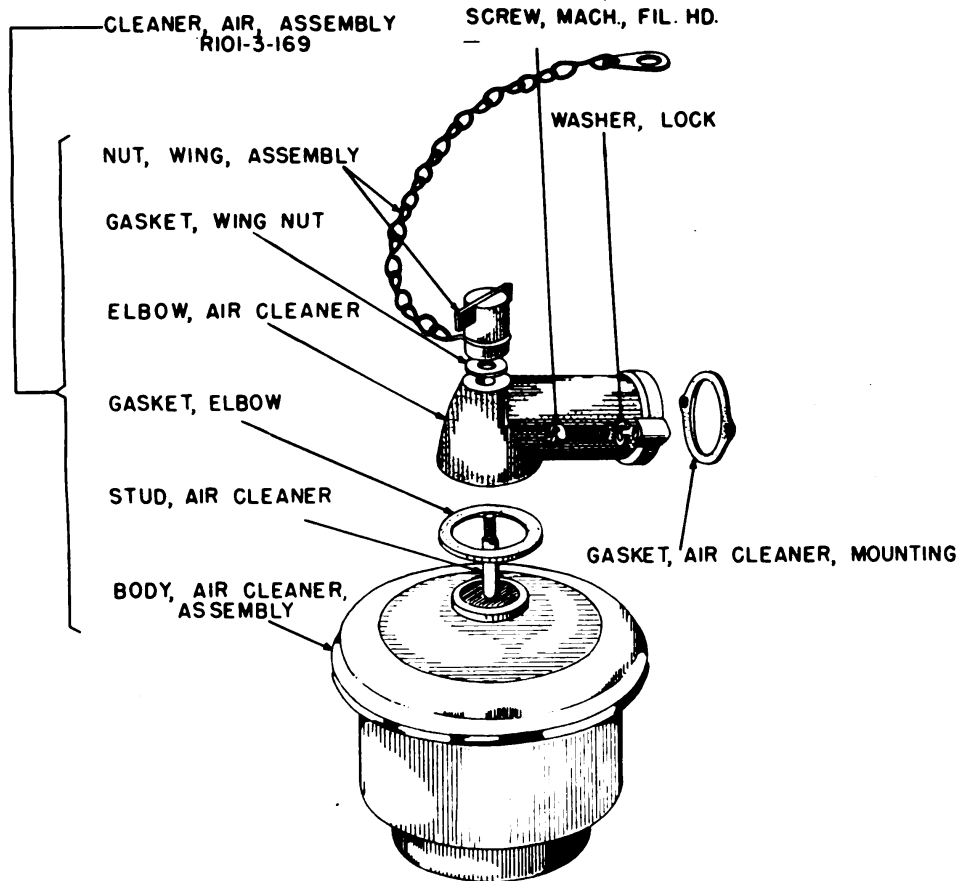

Fig 66. Oil bath air cleaner disassembled showing Chemical Warfare Service nomenclature of parts.
- a. Detach jack chain of wing nut assembly by loosening hex nut holding it to cylinder head. (Fig 66)